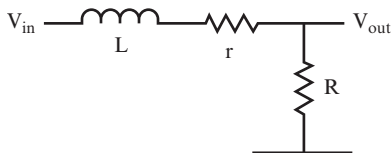

FIGURE 12.8
45. In the circuit shown in Figure 12.8, $V_{in} = 10 V_{pp}$ AC, riding on a 5-volt DC level; $f = 1 \text{ kHz}$; $L = 10 \text{ mH}$; $r = 9 \text{ ohms}$; and $R = 54 \text{ ohms}$. Find AC V_{out} , DC V_{out} , X_L , Z , $\tan \theta$, and θ . _____